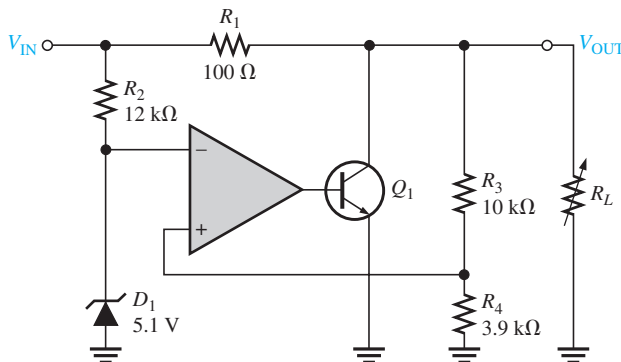

FIGURE 11–43
14. With a constant input voltage of 17 V, the load resistance in Figure 11–43 is varied from 1.0 kΩ to 1.2 kΩ. Neglecting any change in output voltage, how much does the shunt current through Q_1 change?
15. If the maximum allowable input voltage in Figure 11–43 is 25 V, what is the maximum possible output current when the output is short-circuited? What power rating should R_1 have?